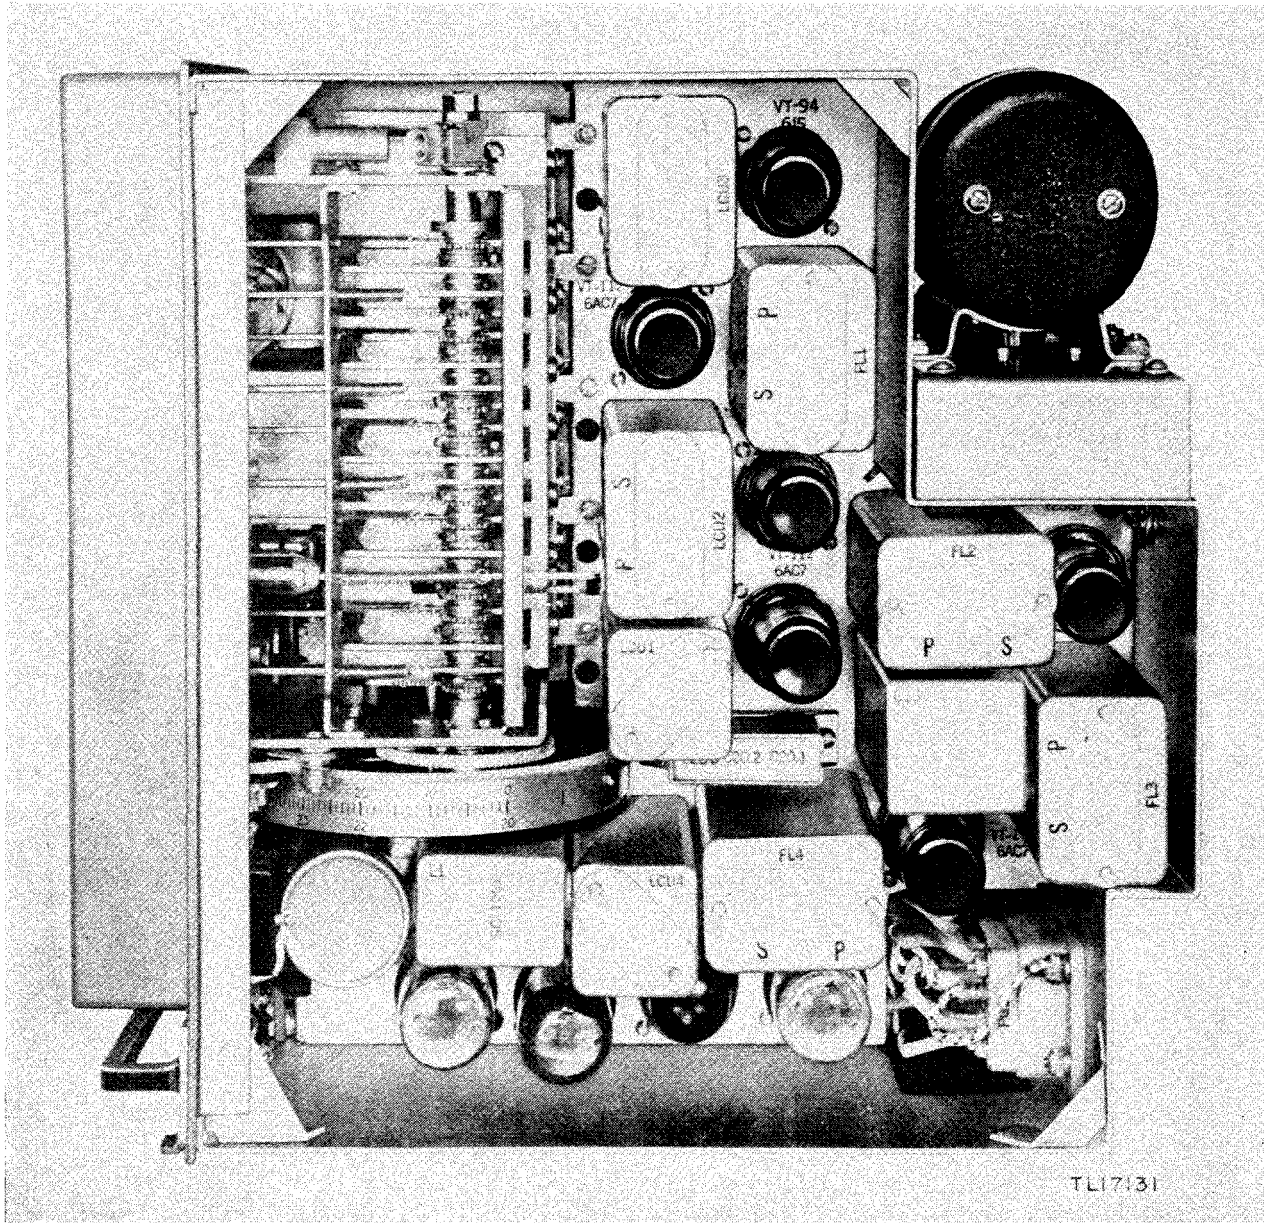

Figure 5. Radio Receiver BC-603-(*)—right-side interior view.
b. The space around a vacuum tube is often limited. (See figs. 5 and 11.) Therefore, use a tube extractor or with the fingers rock the tube gently while pulling up.
c. VACUUM TUBES. Return the vacuum tubes to their respective sockets. (See figs. 5 and 11.)